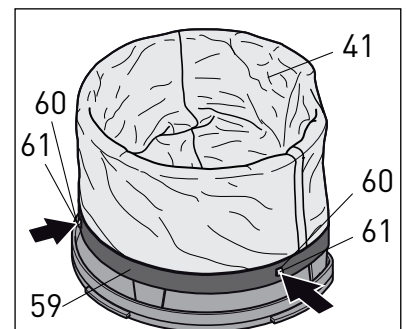
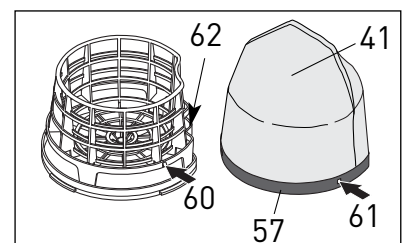
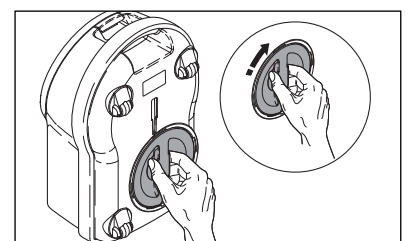

Figure 31
Figure 32
Figure 33
After 10 to 20 bags have been used, change the micro filter (41). To remove the micro-filter, switch off the power and unplug the vacuum. Press the release button (58) located on the filter holder (27) as shown in figure 30. While holding the button in, rotate the holder counter-clockwise and pull it out. Remove the filter (41) from the filter holder (27) by pulling the rubber strip (#59, figure 31) away from the notches (60) that hold it onto the base of the filter holder then pulling the filter off. Fit the new filter down over the holder, lining up the notches (60) on the holder with the holes (61) in the red rubber strip. The two tabs located on the indented portion of the red filter rim hook onto the holder rim (see position #62, figure 32). Tuck the peak of the filter down as shown in figure 31. Insert the assembly back into the machine and turn the holder cover clockwise (figure 33). It is not necessary to press the release button to close the filter holder.